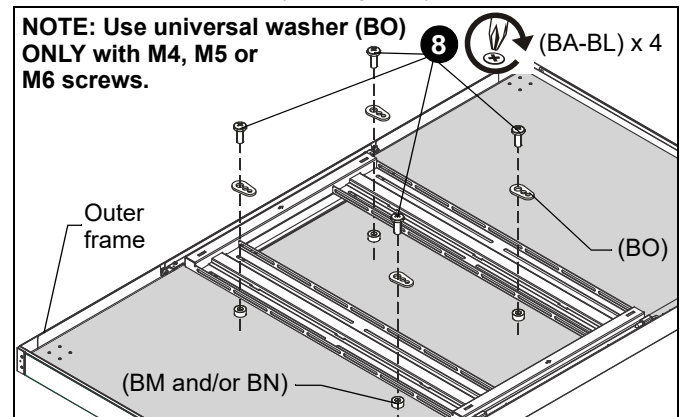

Figure 8
7. Place hinged frame onto back of flat panel and match the VESA pattern on flat panel to the hinged frame mounting slots. Also match the threaded studs in outer frame to the hooks on the hinged frame. (See Figure 8)
8. Use selected screws (BA-BL), washers (BO--if required), and spacers (BM, BN--if required), to connect hinged frame to back of flat panel. (See Figure 8)